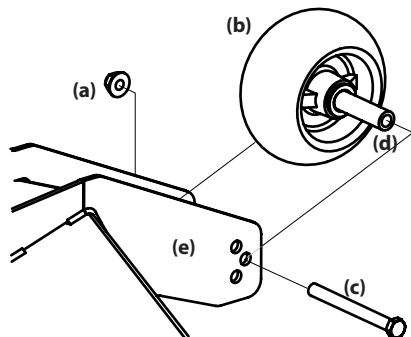

Figure 4-12
2. Remove the lock nut (a) securing one of the front gauge wheels (b) to the deck. Remove the front gauge wheel (b), hex screw (c) and spacer (d). See Figure 4-12.